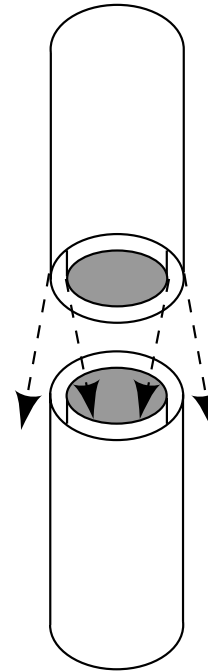

Figure 5.1 Assembling Chimney Sections
- Place inner flue to the inside of the chimney section below it. Place the outer casing outside the outer casing of the chimney section below it. Refer to Figure 5.1.
- Measure how far the chimney needs to be shifted to enable it to avoid the overhead obstacle. See Figure 5.1. Use dimension “A” to determine chimney section required to achieve the needed shift.